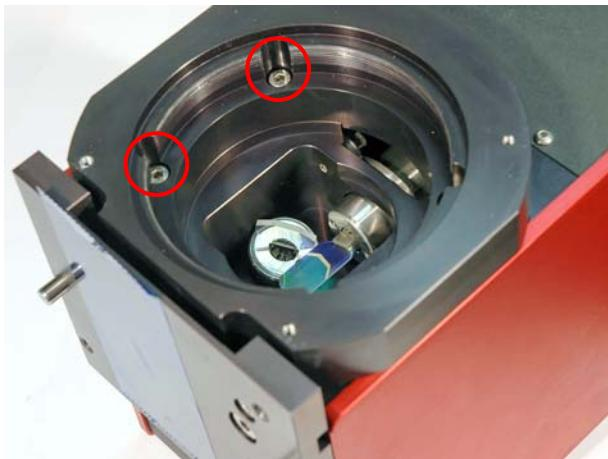

Figure 7.8 Removing the optics mount
10. Loosen the four fastening screws (Figure 7.8) of the optics mount and remove it.